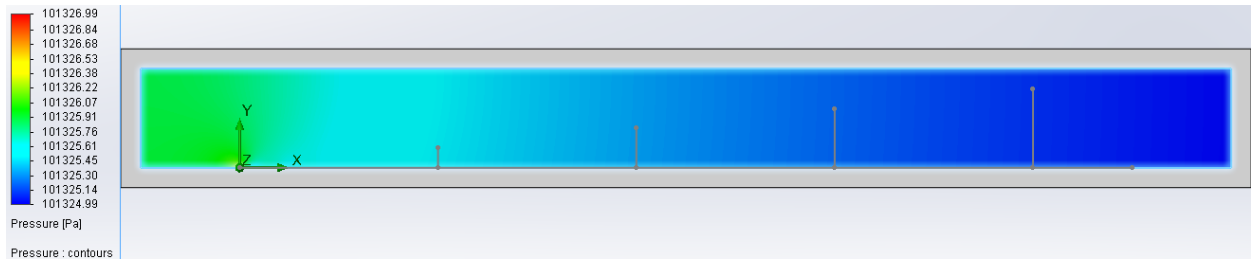

Figure 2.23a) Pressure distribution along the flat plate.
23. Right click on  Cut Plots in the  **Flow Simulation analysis tree** under **Results** and select **Insert...** Select the **Front Plane** from the  **FeatureManager design tree**. Slide the **Number of Levels** slide bar to 255. Select **Pressure** from the **Parameter** drop down menu. Click **OK**  to exit the **Cut Plot** window. Figure 2.23a) shows the high pressure region close to the leading edge of the flat plate. Rename the cut plot to **Pressure**. You can get more lighting on the cut plot by selecting **Flow Simulation>>Results>>Display>>Lighting** from the SolidWorks menu. Right click on the **Pressure Cut Plot** in the **Flow Simulation analysis tree** and select **Hide**. Repeat this step but instead choose **Velocity (X)** from the **Parameter** drop down menu. Rename the second cut plot to **Velocity (X)**. Figures 2.23b) and 2.23c) are showing the velocity boundary layer close to the wall.